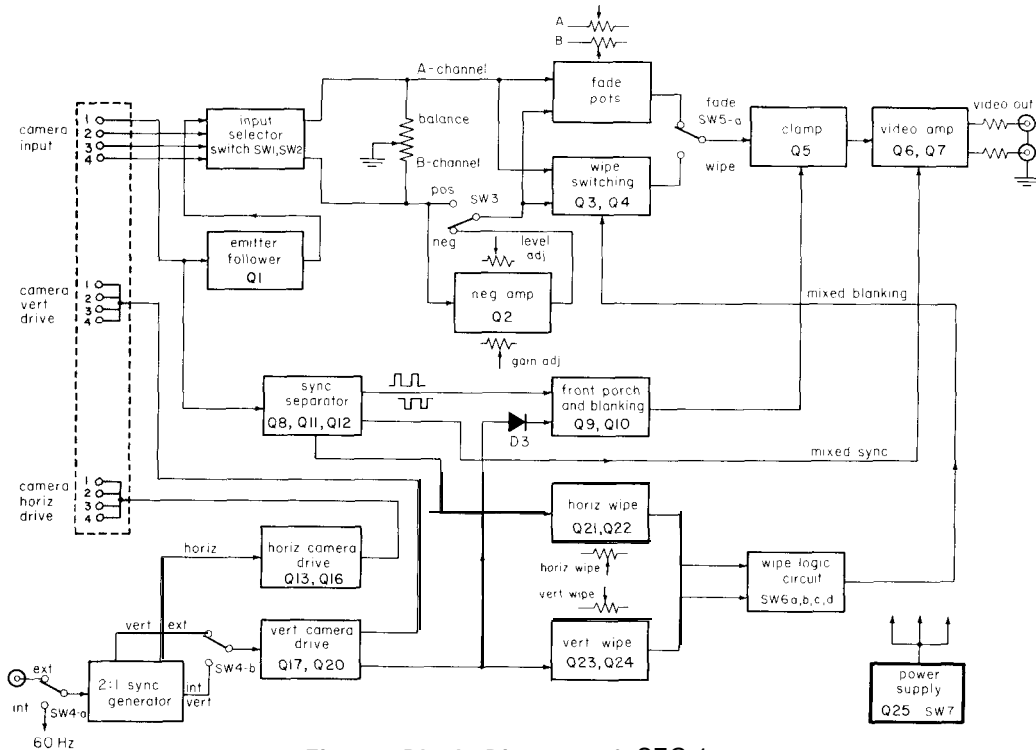

Fig. 1. Block Diagram of SEG-1
Figure 1 shows the block diagram of the SEG-1. Up to four cameras, either 4 CV-Series or 4 DXC-Series can be driven through Hirschmann connectors. To develop the sync pulse in the SEG-1, Camera #1 must always be connected with composite video signals, while either composite -- or non-composite -- video signal is acceptable through Camera #2, #3 and #4. Each camera output can be monitored through four (4) source-terminated SO-239 UHF receptacles.